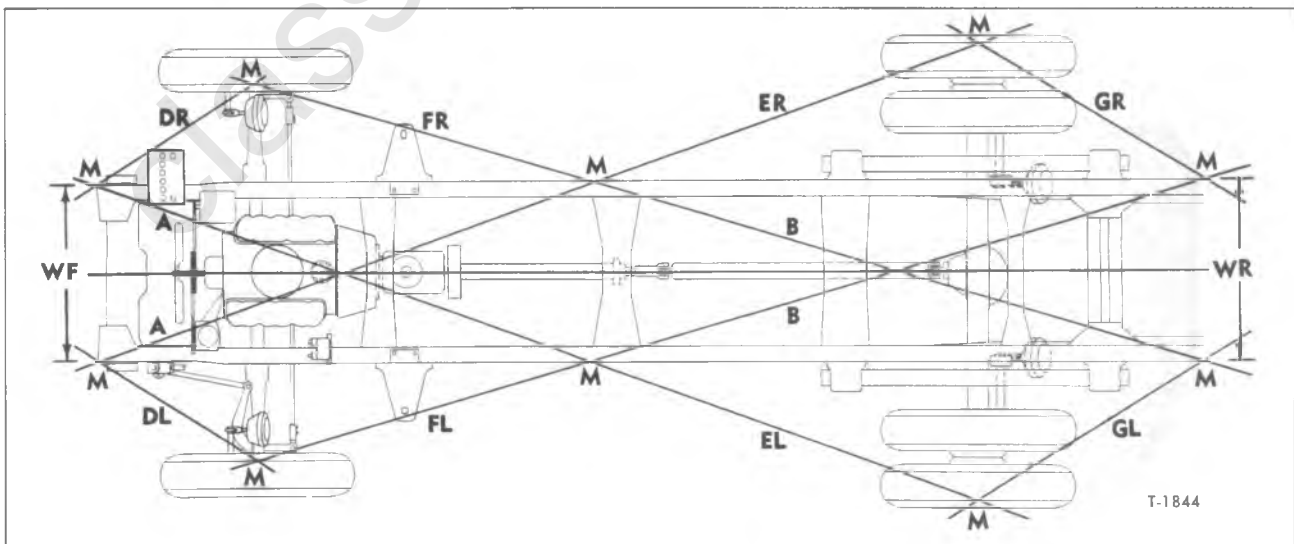

Figure 1—Typical Frame Alignment Points
Channel-type frame (fig. 1) construction with riveted crossmembers is used on all models. Frame side rails are usually of S.A.E. 1023 steel. Figure 1 illustrates typical arrangement of frame mounted suspension and body attaching brackets.
must be used on the right rail. The illustration (fig. 1) is used merely to serve as a guide in the selection of checking points "M."
NOTE: Key letters in the following text refer to figure 1.
5. After it has been determined that the frame is properly aligned, axle alignment with respect to the frame can be checked as directed below: (See fig. 1.)
b. Rear axle alignment with respect to the frame is correct if "ER" equals "EL" and "GR" equals "GL." NOTE: Alignment may appear to be off if rear ends of frame rails are not cut-off evenly when reducing cab to end of frame (CE) for specific operations.